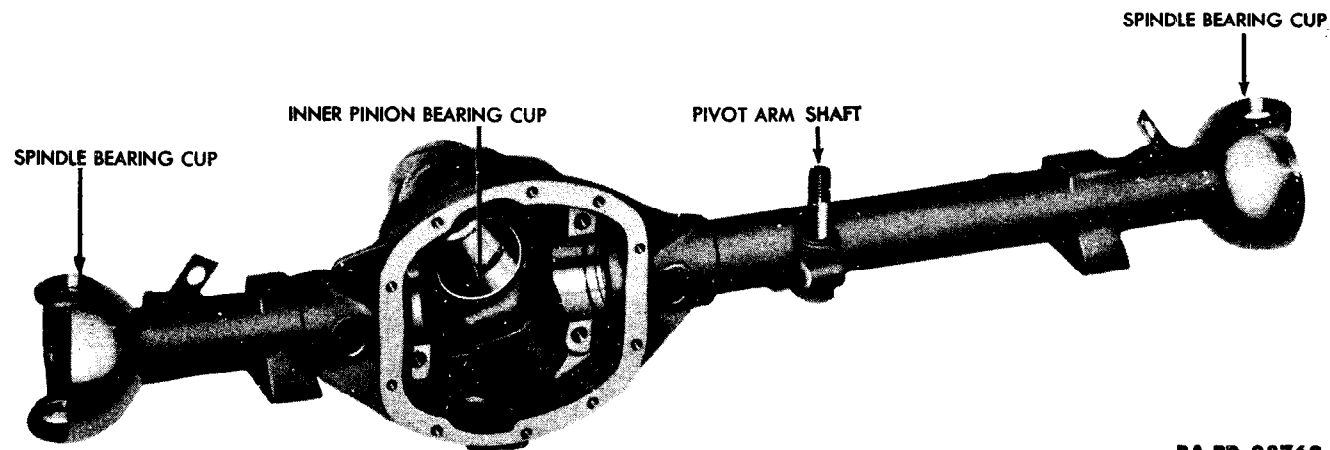

Figure 53 — Front Axle Housing
(1) AXLE HOUSING (fig. 53).
(b) *Pivot Arm Shaft Replacement* (fig. 53). With a long nosed drift, drive out the dowel that secures the pivot arm shaft to the axle housing. Tap the shaft out of the housing. To install a new pivot arm shaft, insert it in the bracket on the housing with the dowel slot in line with the dowel hole. Drive dowel in place.